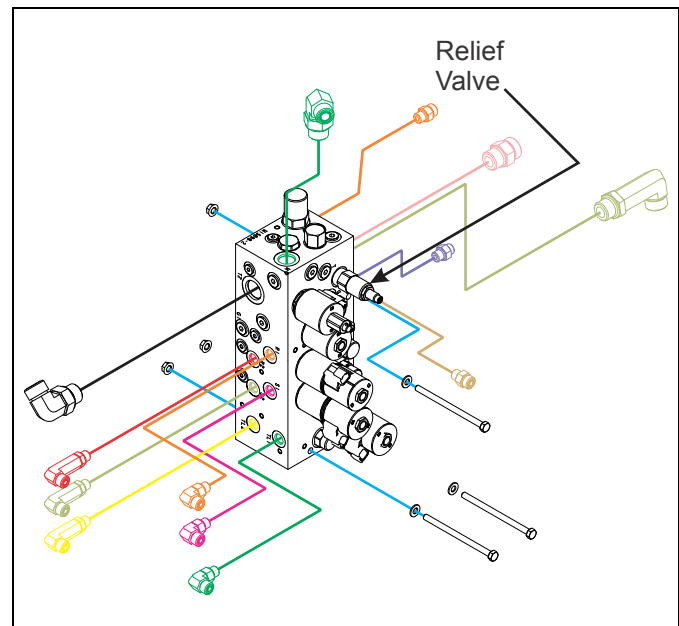

Figure 3-17: Connecting Pressure Gauge
Check with a Landoll service representative for actual setting. The main pump pressure relief valve is located on the hydraulic control valve (See Figure 3-17).
7. Connect the pressure check kit quick-coupler (female end) to the coupler (male end) on the control valve (See Figure 3-17).
- Install your 3,000 psi (207 bar) pressure gauge arrangement to the relief valve (See Figure 3-17).
The relief valve is located on the upper left of the surface facing the valve from the operator's seat. See Figure 3-17 on page 3-38.